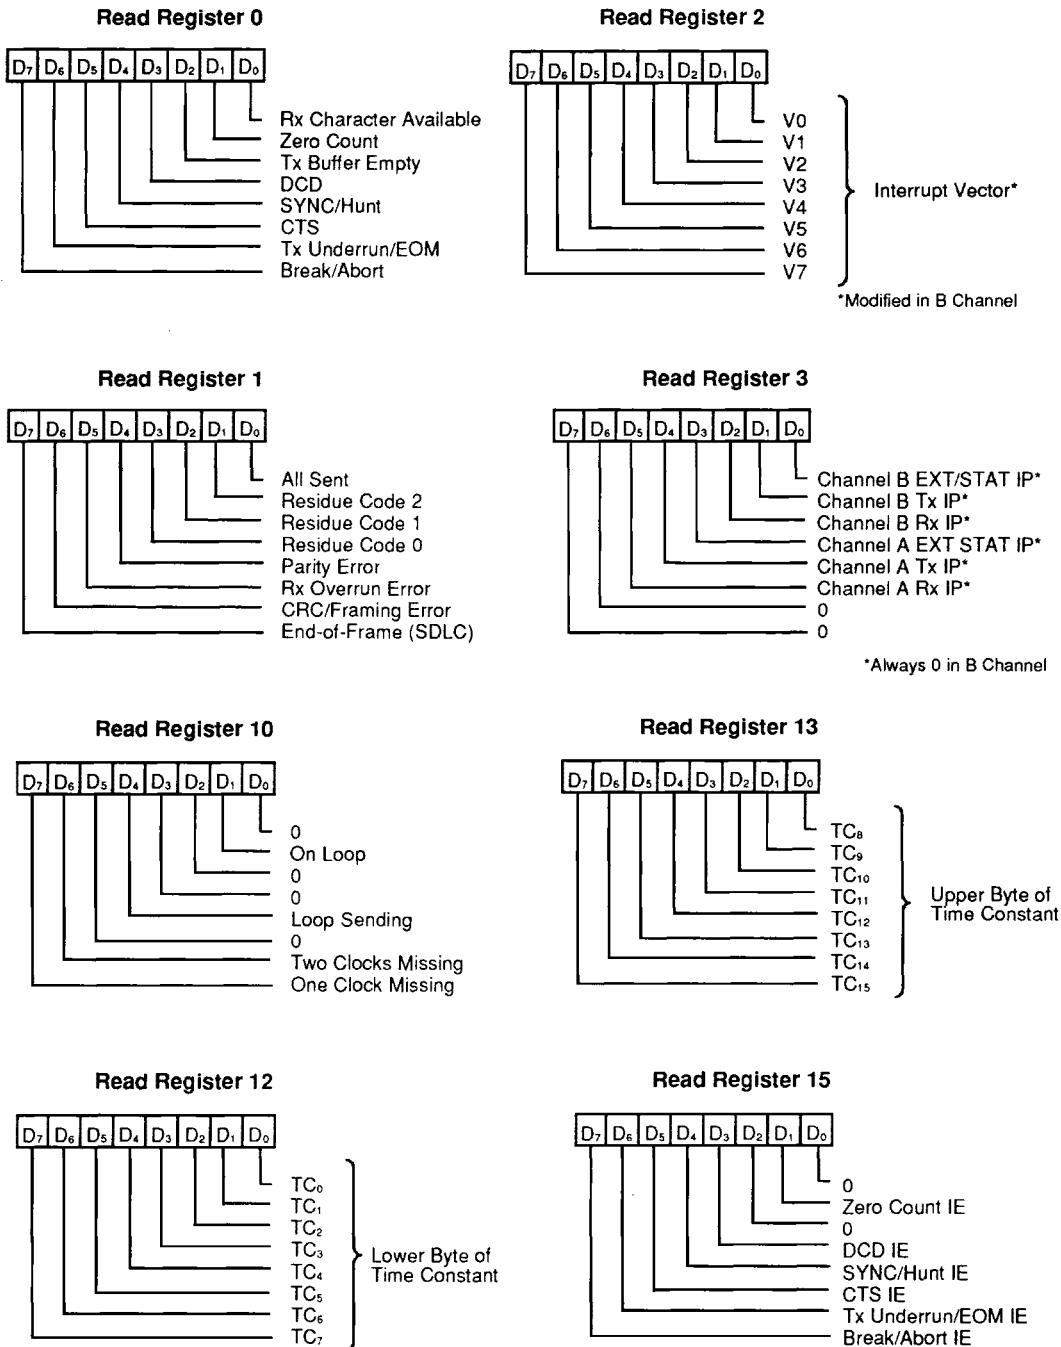

Figure 7. Read Register Bit Functions
When a SCC responds to an Interrupt Acknowledge signal ( $\overline{\text{INTACK}}$ ) from the CPU, an interrupt vector may be placed on the data bus. This vector is written in WR2 and may be read in RR2A or RR2B (Figures 7 and 8).
Pending (IP) bits (Channel A). Figure 7 shows the formats for each Read register.